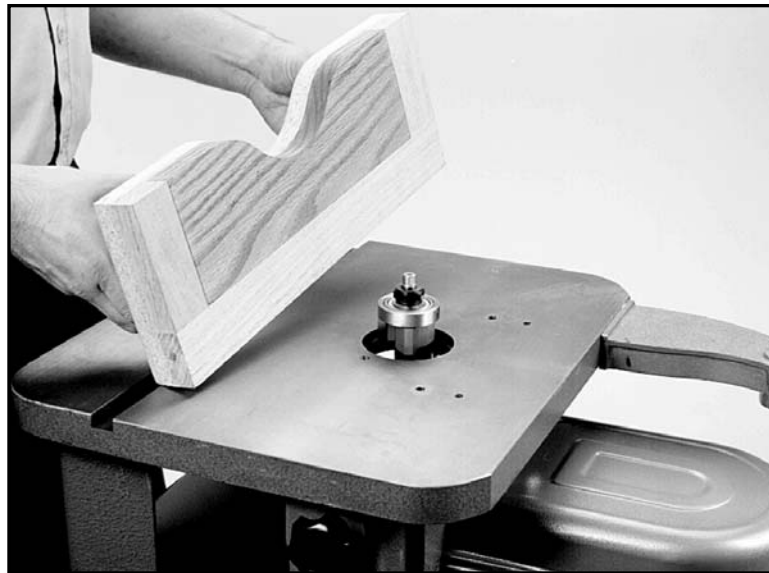

Figure 25
9. Remember, there is tremendous cutting force on the workpiece. Fixtures must be solid, stable and the workpiece must be firmly secured. See Figure 25.